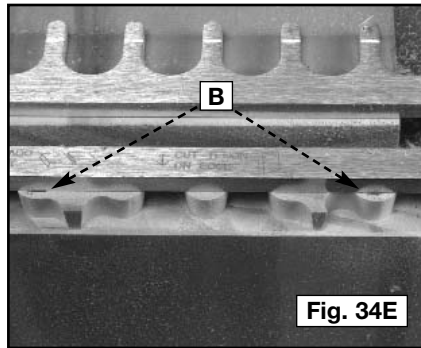

Fig. 34E
Step 7 - Adjust the template back and forth to align the edge of the template with the marks on the wood (B) Fig. 34E.